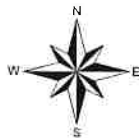

Figure 2
- Figure 2. Project Location Map
Ecometrics LLC has been retained by Wild Ginger to conduct a delineation of Waters of the U.S. (WoUS), including wetlands, proposed for the development. The site is situated on forested land comprised of approximately 8.8 acres between Longwood Drive, Mosely Drive, and Shasta Court within the City of Charlottesville. Although the site is within the city, it abuts Moores Creek, which delineates the City of Charlottesville and Albemarle County limits (Appendix A, Figures 1 and 2). The wetland delineation study limits are provided in Figure 5 with the center of the site at approximately 38°00'45.2"N 78°30'31.8"W. The site is easily accessible from Mosely drive by passing between the properties at 534 Mosely Drive and 600 Mosely Drive (Appendix A, Figure 2).